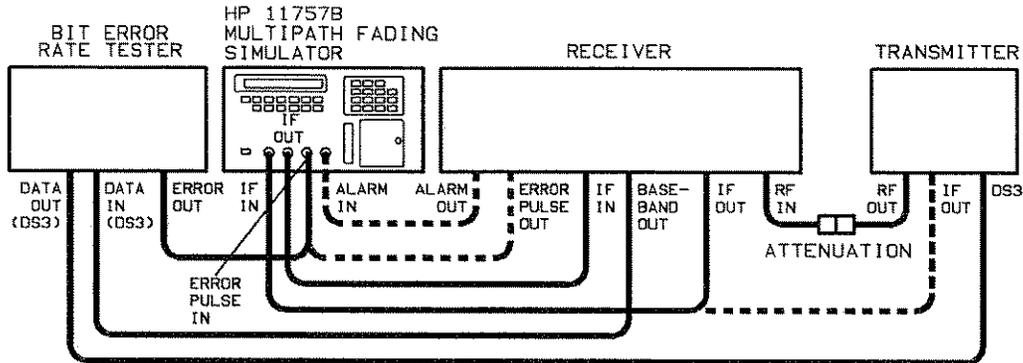

Figure 1-2. Dynamic M-Curve Measurement Test Setup
4. Connect the Fader, BERT and Digital Radio as shown in figure 1-2.